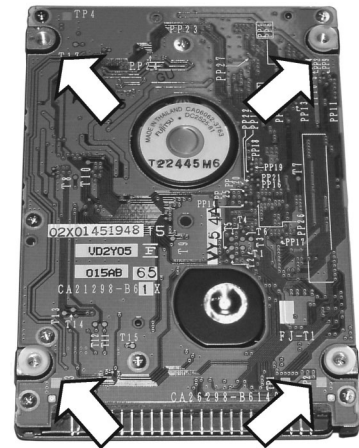

Fig. MM-2
1. Place the mirrored (**secondary**) hard drive on the work surface with the printed circuit board up and the connector facing you (Fig. MM-2). Place a nylon spacer (washer) over each of the threaded mounting holes.